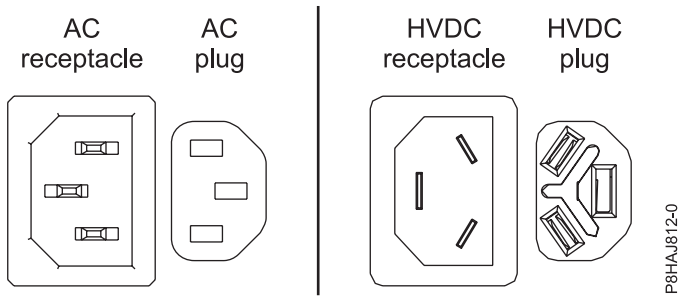
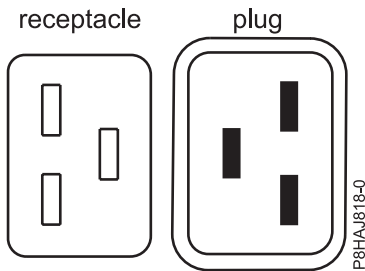
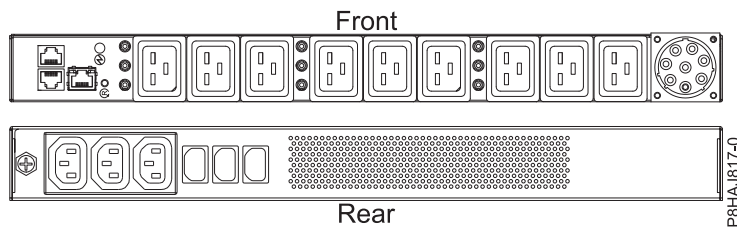

Figure 34. AC and HVDC connectors
Figure 35. Connectors for the 8408-44E system
Figure 36. PDU for the 8408-44E system
- The power cord is fastened to the system using the hook-and-loop fastener (A). If you are placing the system in a service position after disconnecting the power cords, then ensure that you unstrap the fastener.
Figure 34 shows the supported alternate current (AC) and high voltage direct current (HVDC) connectors. Figure 35 and Figure 36 show the supported connectors and power distribution unit (PDU) for 8408-44E.